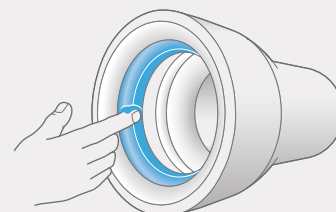

Figure 2
**APPLICATION OF LUBRICANT (Figure 2)**